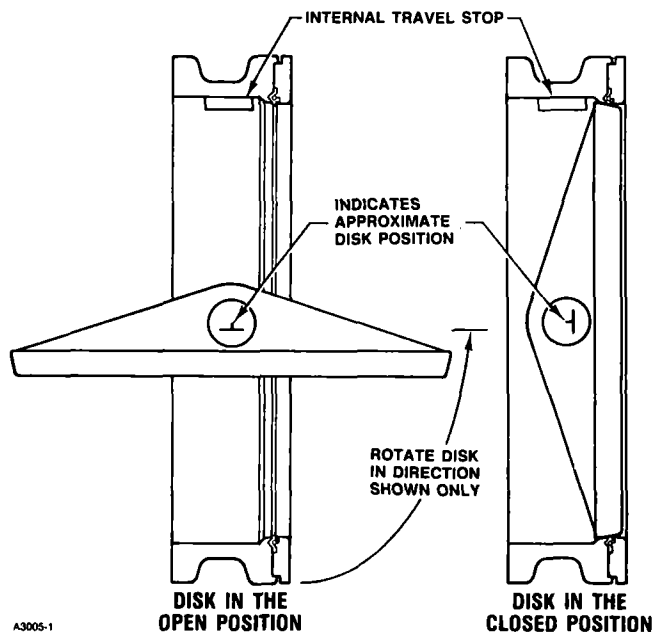

Figure 3. Disk Rotation Indication for 30 and 36-Inch Sizes (Viewed from End of Valve Body Opposite the Actuator)
- For 30 and 36-inch sizes, refer to figure 3. Disk position corresponds to the marking stamped on the end of the shaft that is opposite the actuator.